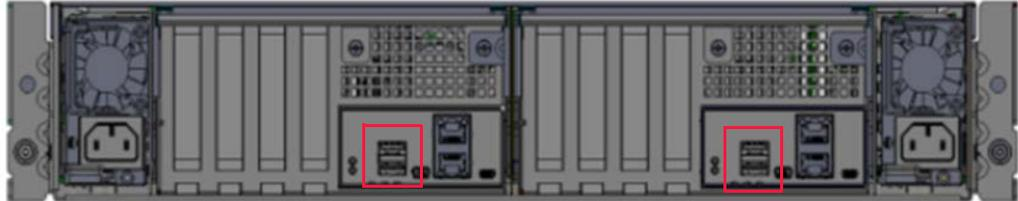

Figure 6.2 USB port on server's operator panel
1. Insert the USB drive or other device—preloaded with the chosen operating system—into one of the USB ports on the server's operator panel. The USB ports are identified in Figure 6.2.